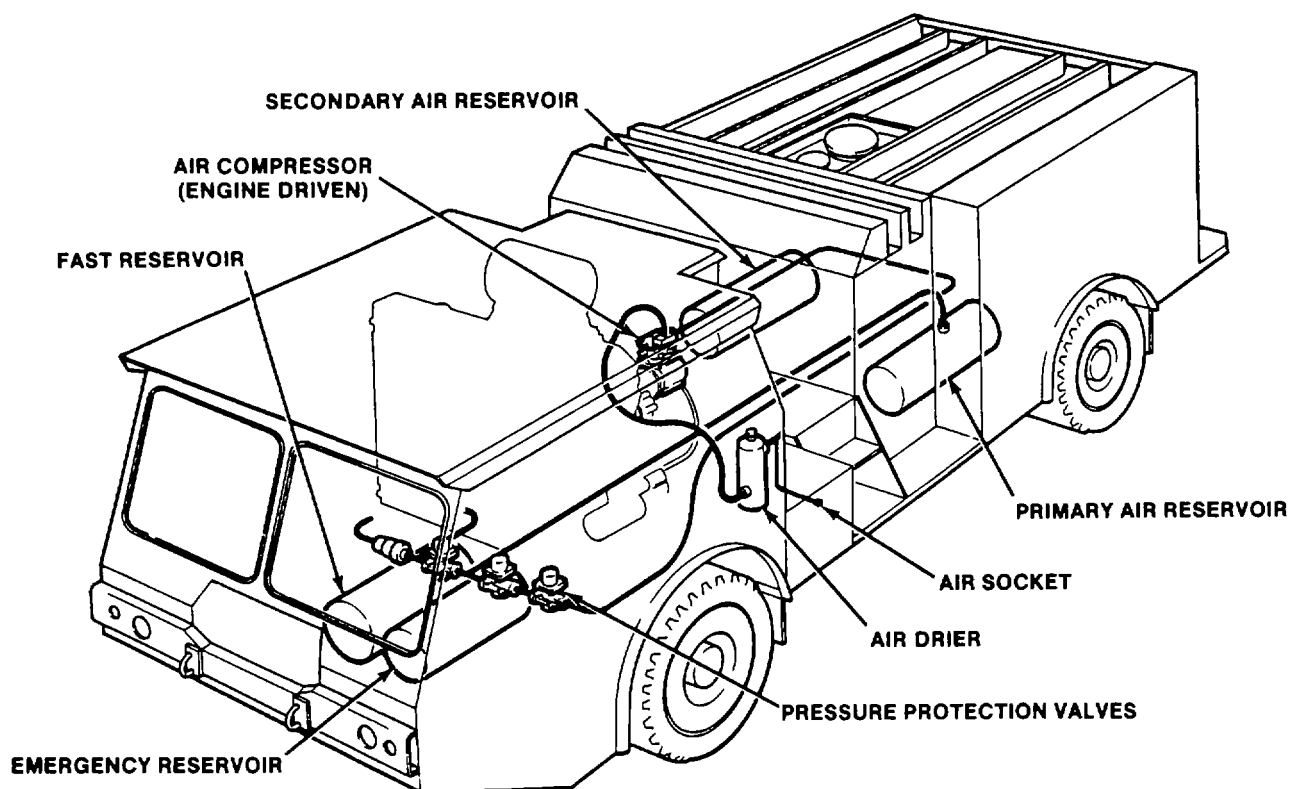

Figure 1-13. Air System Components
(1) The air system comprises a main-engine-driven compressor, an air drier and four reservoirs in addition, valves and hoses for supply and control of the truck and firefighting equipment are included, (see fig. 1-13). The reservoirs are filled successively. This is achieved with the pressure protection valves.
(2) The primary reservoir supplies air to the rear brakes, engine throttle and firefighting system. The primary reservoir is filled and pressurized before the other reservoirs. The air socket may be used to pressurize the primary air system from a shop supply in the event of system overhaul.
(3) The fast reservoir is used to store air when the engine is shut down. When the ignition is off, the reservoir is totally isolated. When the ignition is switched on, the air starter valve opens, and the primary reservoir is pressurized. This allows the truck to be driven without waiting for the primary tank to be charged by the compressor.
(4) The secondary reservoir is filled after the primary reservoir is pressurized. The secondary circuit supplies air to the front brakes, parking brake release, air horns, wipers, washers, fan, and shutter.
(5) The emergency reservoir is filled after the primary reservoir is pressurized. The emergency reservoir only supplies the emergency parking brake release system.
(6) The primary, secondary, and emergency systems are fitted with pressure gages which are located in the cab. Audiovisual alarm lamps indicate when the pressure is low. Manual draincocks are fitted to each reservoir.